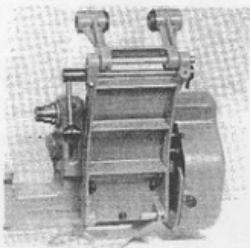

Fig. 4
a Mount the countershaft arm/swing head assembly (1) on the back of the Lathe bed, using the three  $\frac{1}{4}$ " dia. x  $1\frac{1}{2}$ " long B.S.F. screws and washers which are provided. See Fig. 4. Lightly tighten the screws only at this stage.